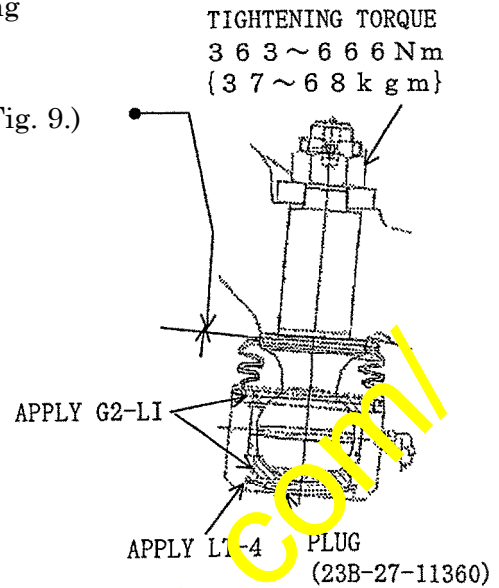

Fig. 9
Precaution ④: There should not be a clearance between the flange of the ball stud and the housing. (Refer to Fig. 9.)